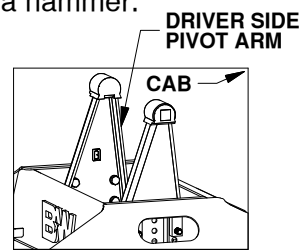
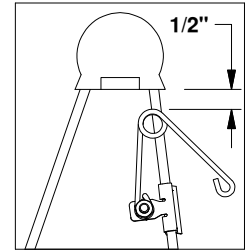

Figure C2: Base view.
Figure C3: Driver side pivot arm.
- Attach kit.** Locate the flange which will be closest to the truck cab on the driver side pivot arm, see Figure C2. The clip should be placed so that when the spring's coil is in the line with the edge of the arm there will be 1/2" of clearance between the bottom of the polyurethane bushing and the top of the spring, see Figure C3. Drive the clip securely onto the flange with a hammer.